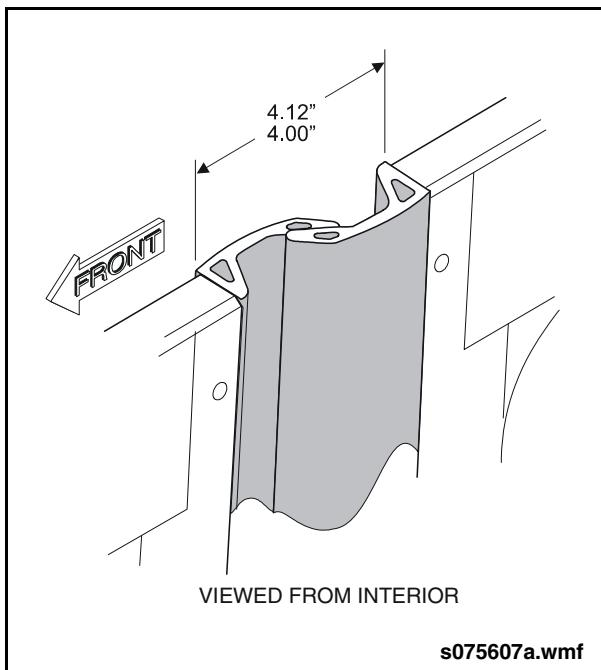

Fig. 16-17: Door Closure Adjustment
2. With the doors in this position the metal-to-metal door panel leading edge gap should be a minimum of 4.00". See “Fig. 16-17: Door Closure Adjustment” on page 26.